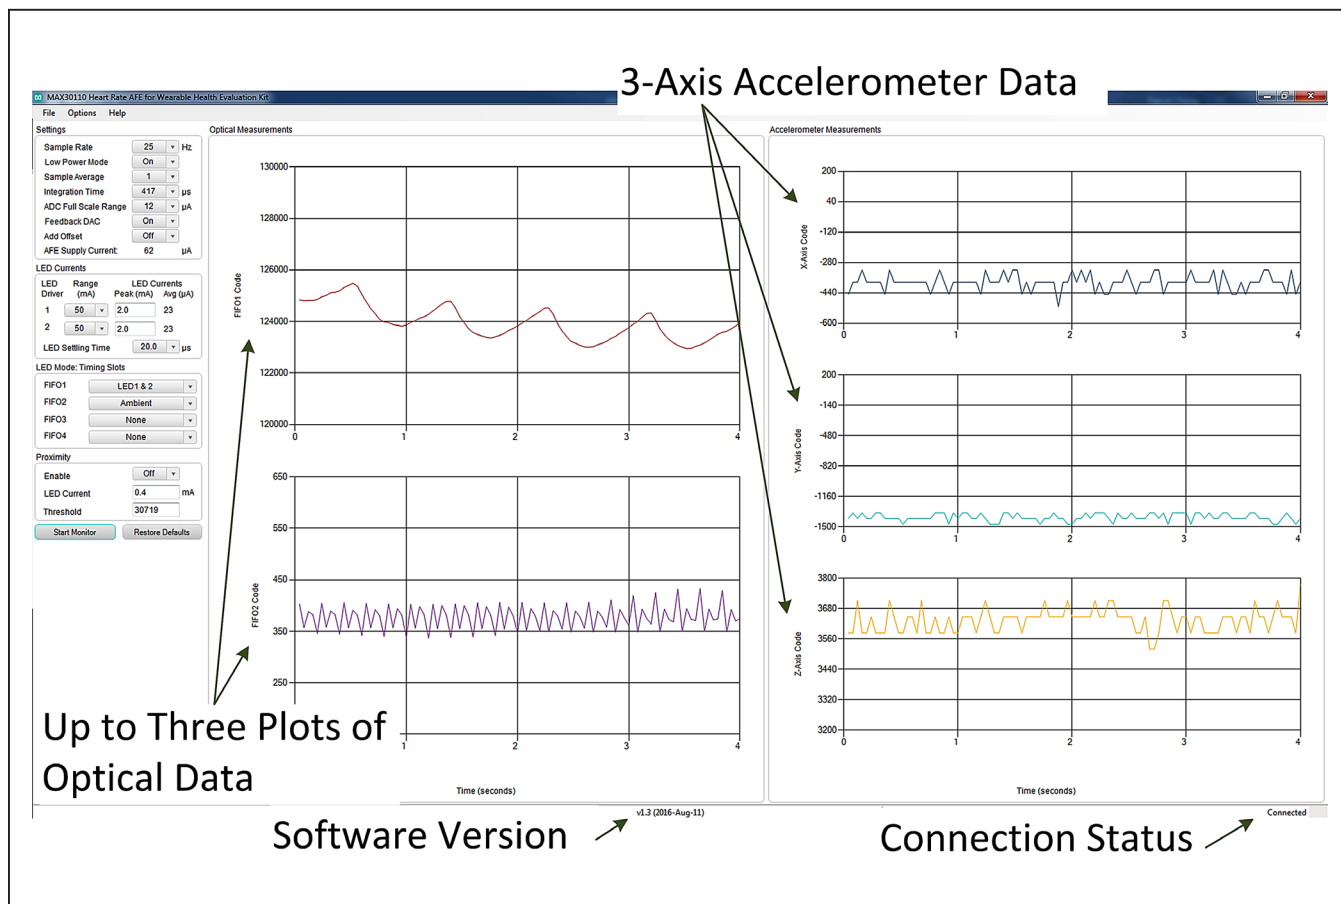

Figure 10. MAX30110 EV Kit—GUI
- 5) After that, start the MAX30110 EV kit GUI program. The GUI will be launched as shown in Figure 10.
- 6) Look for the “Connected” statement in the lower right hand of the GUI as shown in Figure 10. If “Disconnected” is shown in the Connection Status, please check the USB connection.